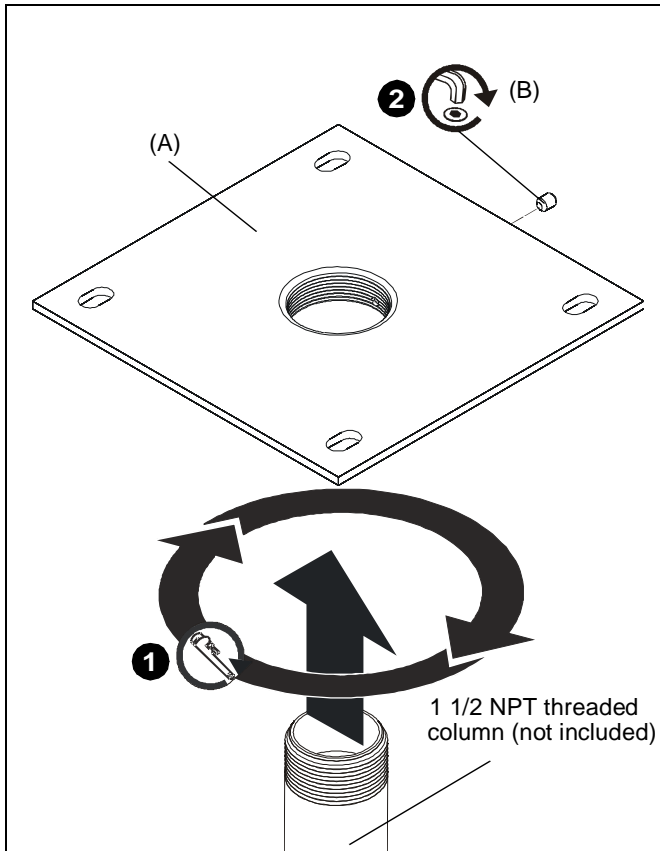

Figure 2
1. Install 1-1/2" NPT or NPSM following ANSI/ASME B1.20.1 (Schedule 40, 0.154" minimum thickness steel or aluminum - ASTM B221) threaded extension column (not included) into threaded collar until tight, with a minimum of four threads engaged. (See Figure 2)
2. Install #10-24 1/4" set screw (B) into hole on ceiling plate (A) to secure pipe to mount. (See Figure 2)